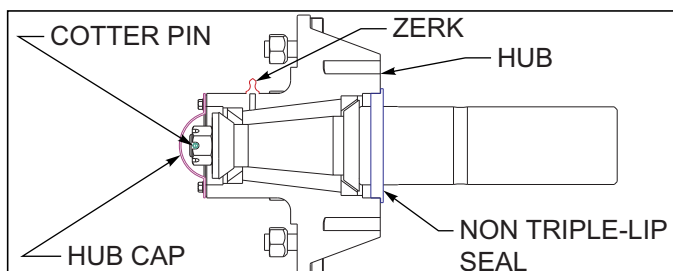

Figure 4-21: Non-Triple Lip-Seal
12. Through the zerk, give 6-8 more pumps of grease. It is not necessary to purge grease through a new seal, as they are filled (**See Figure 4-21.**)